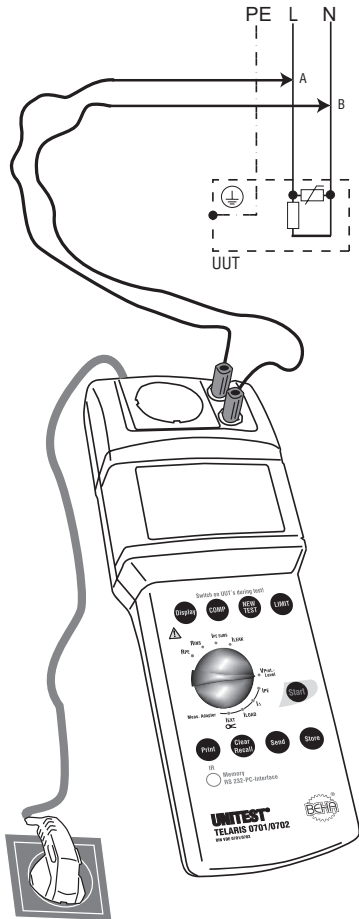

Figure 6.12: Measuring the protection level for UUTs with overvoltage protection devices between L and N
- ▶ Connect the UNITEST TELARIS 0701/0702 via the mains plug (1) to a functional and correct wired and grounded mains socket.
- ▶ Turn the "Measurement function" selection switch (15) to position "VProt level".
- ▶ When dealing with UUTs at which the overvoltage protection devices are connected between L and N, connect the phase (L) of the mains input to the red "L/N" socket (4) and the neutral conductor (N) to the blue socket (5), please refer to Figure 6.12.